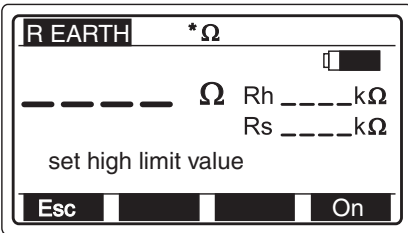

Figure 21: Menu for Setting Limit Values
- ▶ To set the limit value first press function key F2 (Lim) to enter the menu for setting limit values, please refer to Figure 21.